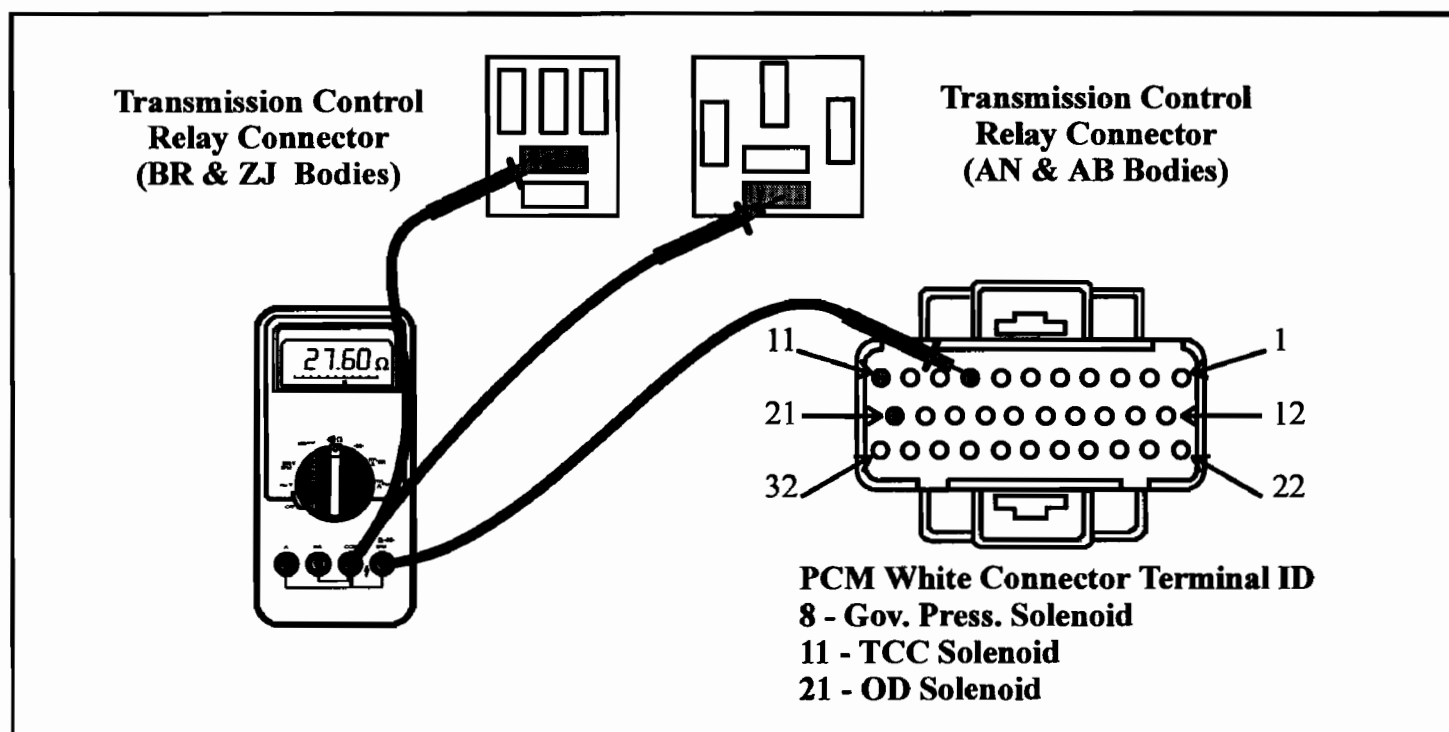

Figure 4
4. The PCM has three 32 pin connectors, black, grey and white. Unplug the middle connector which is the white connector. With the negative lead resistance checks on the Torque Converter Clutch, Governor and Overdrive solenoids may be checked at terminals 8, 11 and 21 individually (See Figure 4). Both the TCC and OD solenoids should measure between 25 and 40 ohms. The Governor Pressure Solenoid should measure between 3 to 5 ohms.